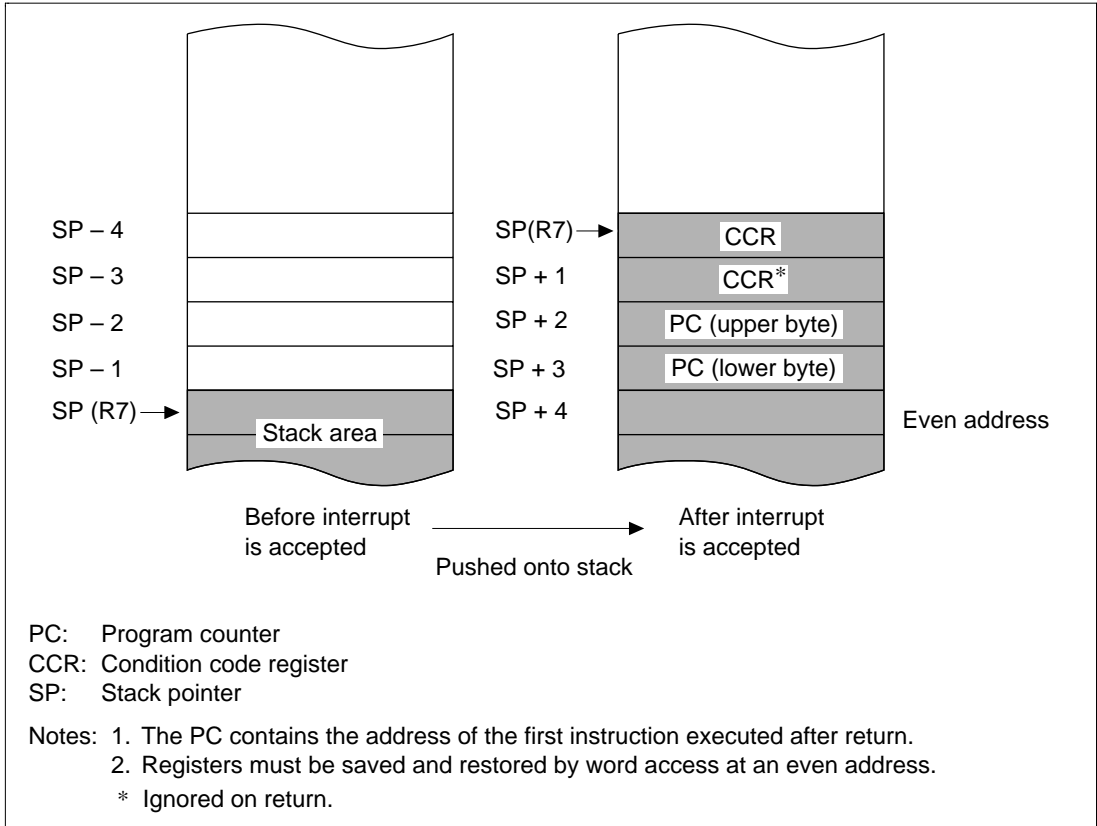

Figure 4.6 Usage of Stack in Interrupt Handling
5. In the hardware exception-handling sequence, the CPU first pushes the PC and CCR onto the stack. See figure 4.6. The stacked PC indicates the address of the first instruction that will be executed on return from the software interrupt-handling routine.